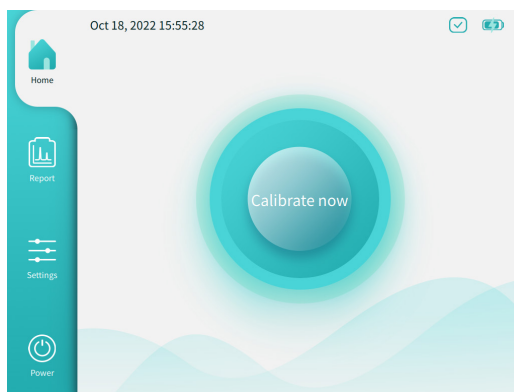

Figure 3.4 Calibration
2. After recognizing the cartridge, the instrument would display [Calibrate now] in the operation area (Figure 3.4).